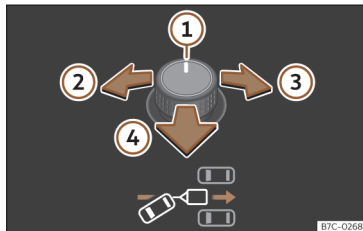
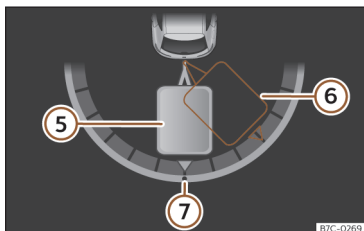

Fig. 164 Outside rearview mirror rotary control: adjust the trailer angle.
Fig. 165 Instrument cluster display: engage reverse.
Key to the >>> **Fig. 164** , >>> **Fig. 165**:
- Tilt the rotary control until the desired direction is reached >>> **Fig. 164**. A representation of the tow vehicle and trailer set is shown on the instrument cluster screen for guidance purposes >>> **Fig. 165**.